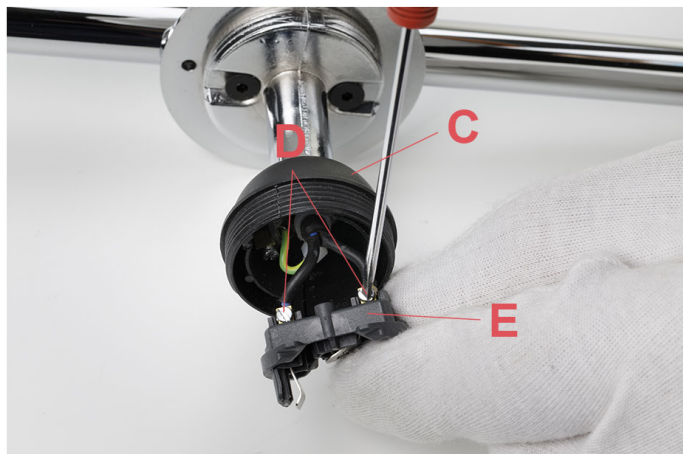

Fig.4
Position the fitting (E) into the support (C) and fasten the lamp holder sleeve (B). (Fig.4 page 14)